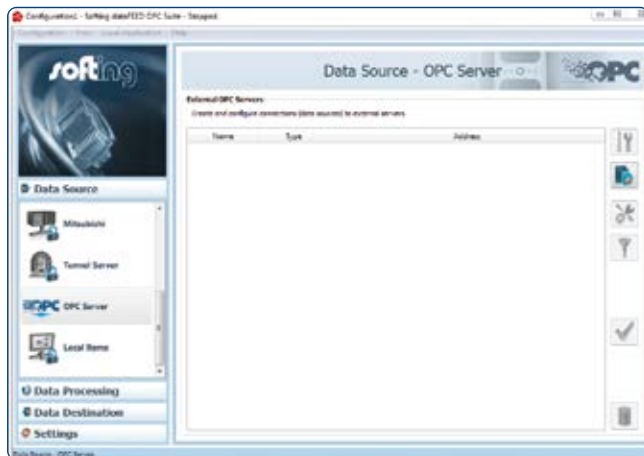

Figure 71: Starting with the OPC Bridge.
- Select the Tab Data Source on the left side and click on OPC Server (Figure 71).